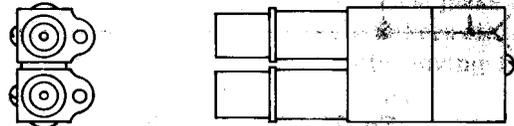

Fig. 25—543A Jack
2.21 **543A:** The 543A is a coaxial-type twin jack (Fig. 25) which has coaxial designed inner and outer contacts. One end of each jack is designed to be used with the 358A and similar-type plugs. The other end of each jack is designed for a solderless shield connection to a miniature coaxial cable by means of a sleeve which is furnished as a loose part with the jack. The jack is designed for mounting in jack mountings such as the 185 and 230A. The mounting lugs on the two individual jacks may be positioned for mounting so as to extend back-to-back, or in the same direction, side-by-side, or at right angles to each other. The outer contacts are connected together. A removable coverplate is furnished for use in covering an unused cable entrance hole. The jack construction permits strapping of the inner contacts. The 543A jack is used on the J68858 L Supergroup Multiplex Bay of the Toll Systems.